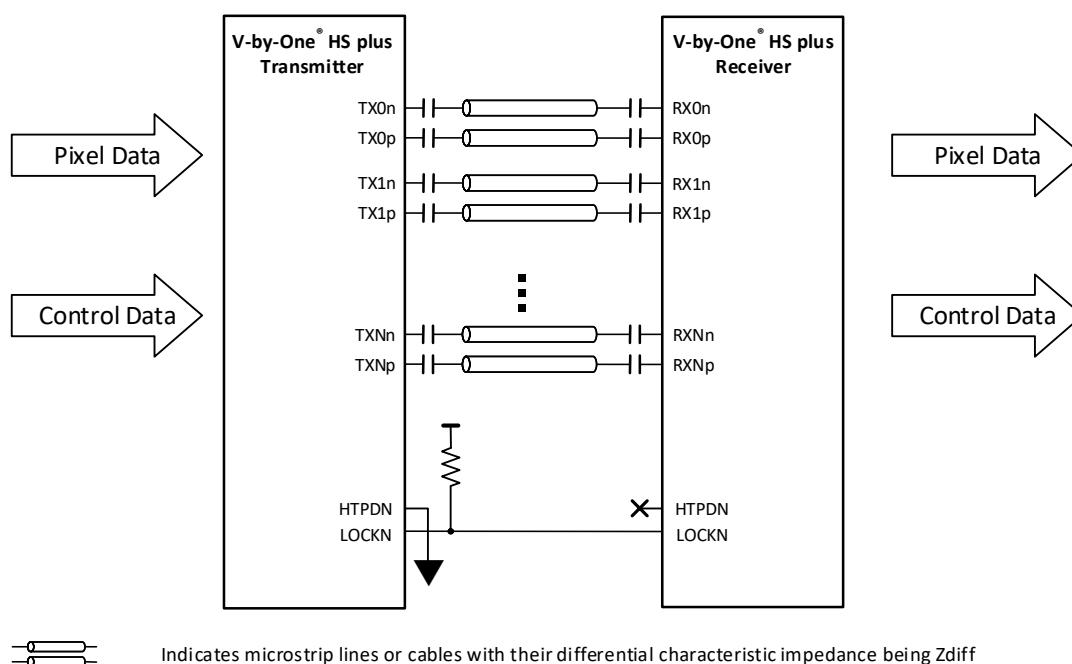

Figure 2 V-by-One® HS plus Link System without HTPDN Connection Schematic Diagram
In RCH(SR) mode, HTPDN connection between the transmitter and receiver may be omitted as an application option. In this case shown on Figure 2, HTPDN at the transmitter side is fixed low.